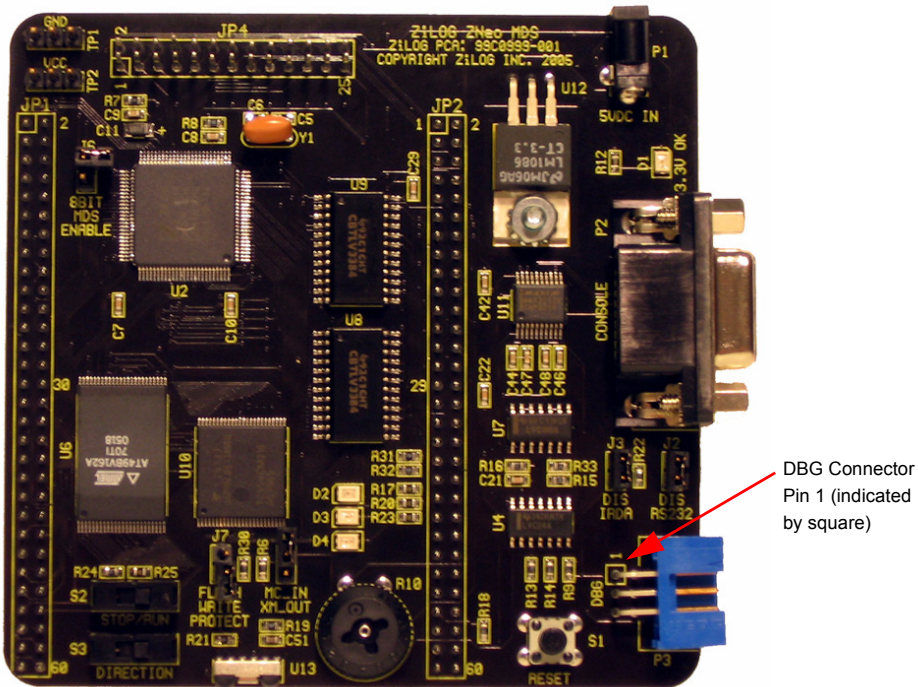

Figure 1. ZNEO Development Board
Figure 1 displays a photograph of the ZNEO development board.
2. Attach the free end of the ribbon cable to the DBG connector on the target board. Ensure that pin 1 on the ribbon cable (indicated by the dark stripe) is aligned with pin 1 on the target connector (see Figure 1 on page 3 for location of pin 1 on the ZNEO development board).